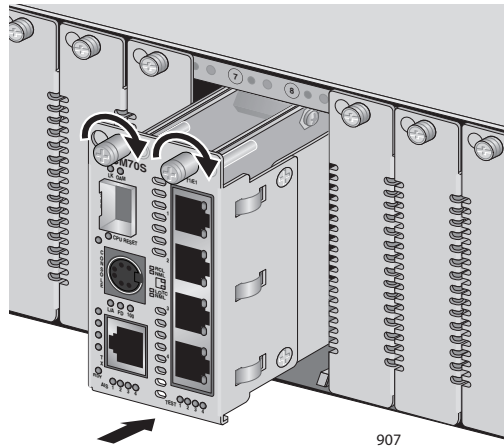

Figure 53. Inserting an AT-CM70S Line Card
- Slide the AT-CM70S line card into the two slots, as shown in Figure 53, until the line card is flush with the front of the chassis.